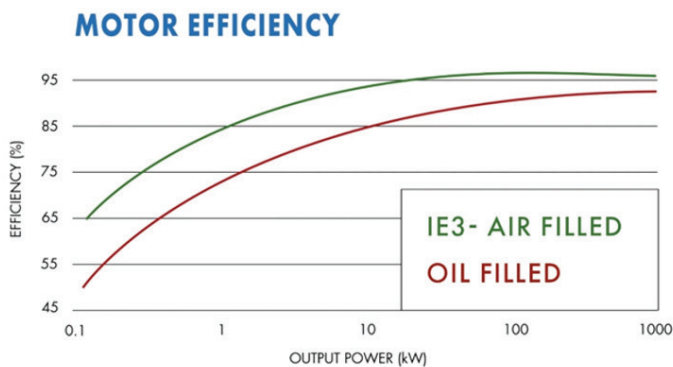

Figure 1: Relation between Efficiency and Electric Motor Performance
Submersible motor efficiency standards are governed by the International Electrotechnical Commission, through the International Efficiency (IE) Rating. There are currently five levels in IEC60034-30-1, “Rotating electrical machines – Part 30-1: Efficiency classes of line operated AE motors” – IE1, IE2, IE3, IE4 and IE5. These ratings correspond to motor performance curves, where the efficiency requirement increases logarithmically as power (in HP or kW) increases. Any motor that has a curve equal to or above each standard curve meets that efficiency level – similar to how pump efficiency is plotted. IE3 is quickly becoming the industry standard in the wastewater pump market. Figure 1 below details how a typical oil filled submersible motor compares to an IE3 rated air filled submersible motor. At this time, there are only a couple of IE4 rated submersible motors and no IE5 rated motors, yet. There are non-submersible motors on the market that meet both of these standards, so it will not be long before we see the market standard leaning toward IE4 and IE5 rated submersible motors.